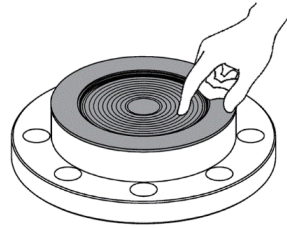

Fig. 2-21. Removing excessive grease
4. Make sure no air remains between diaphragm and protective film. Squeeze out any remaining air by pushing with fingers from the center towards the rim. (Fig. 2-21)